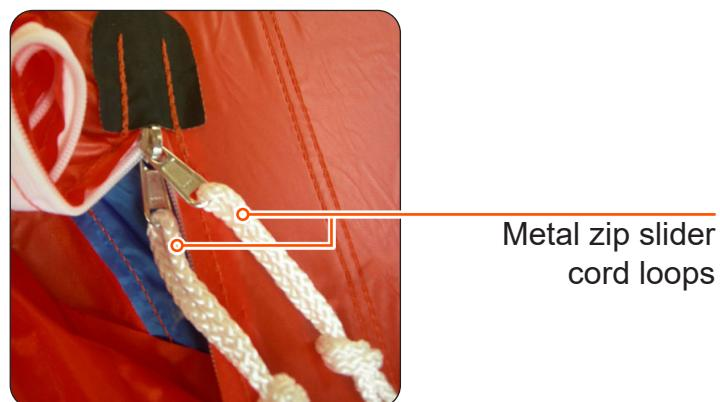

FIGURE 2
- (e) Remove the metal zip slider cord loops. Refer to **Figure 2**.